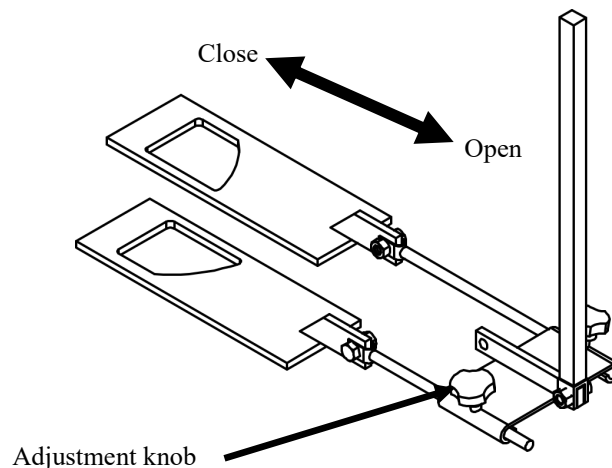

Fig. 6
1. Loosen the Adjustment Knobs located on the Tie Rod Plate (See Fig. 6). Slide the Shutter in towards the hopper to spread less material, slide out away from the hopper to spread more material. Sliding the handle all the way in will close the shutters and no material will dispense.